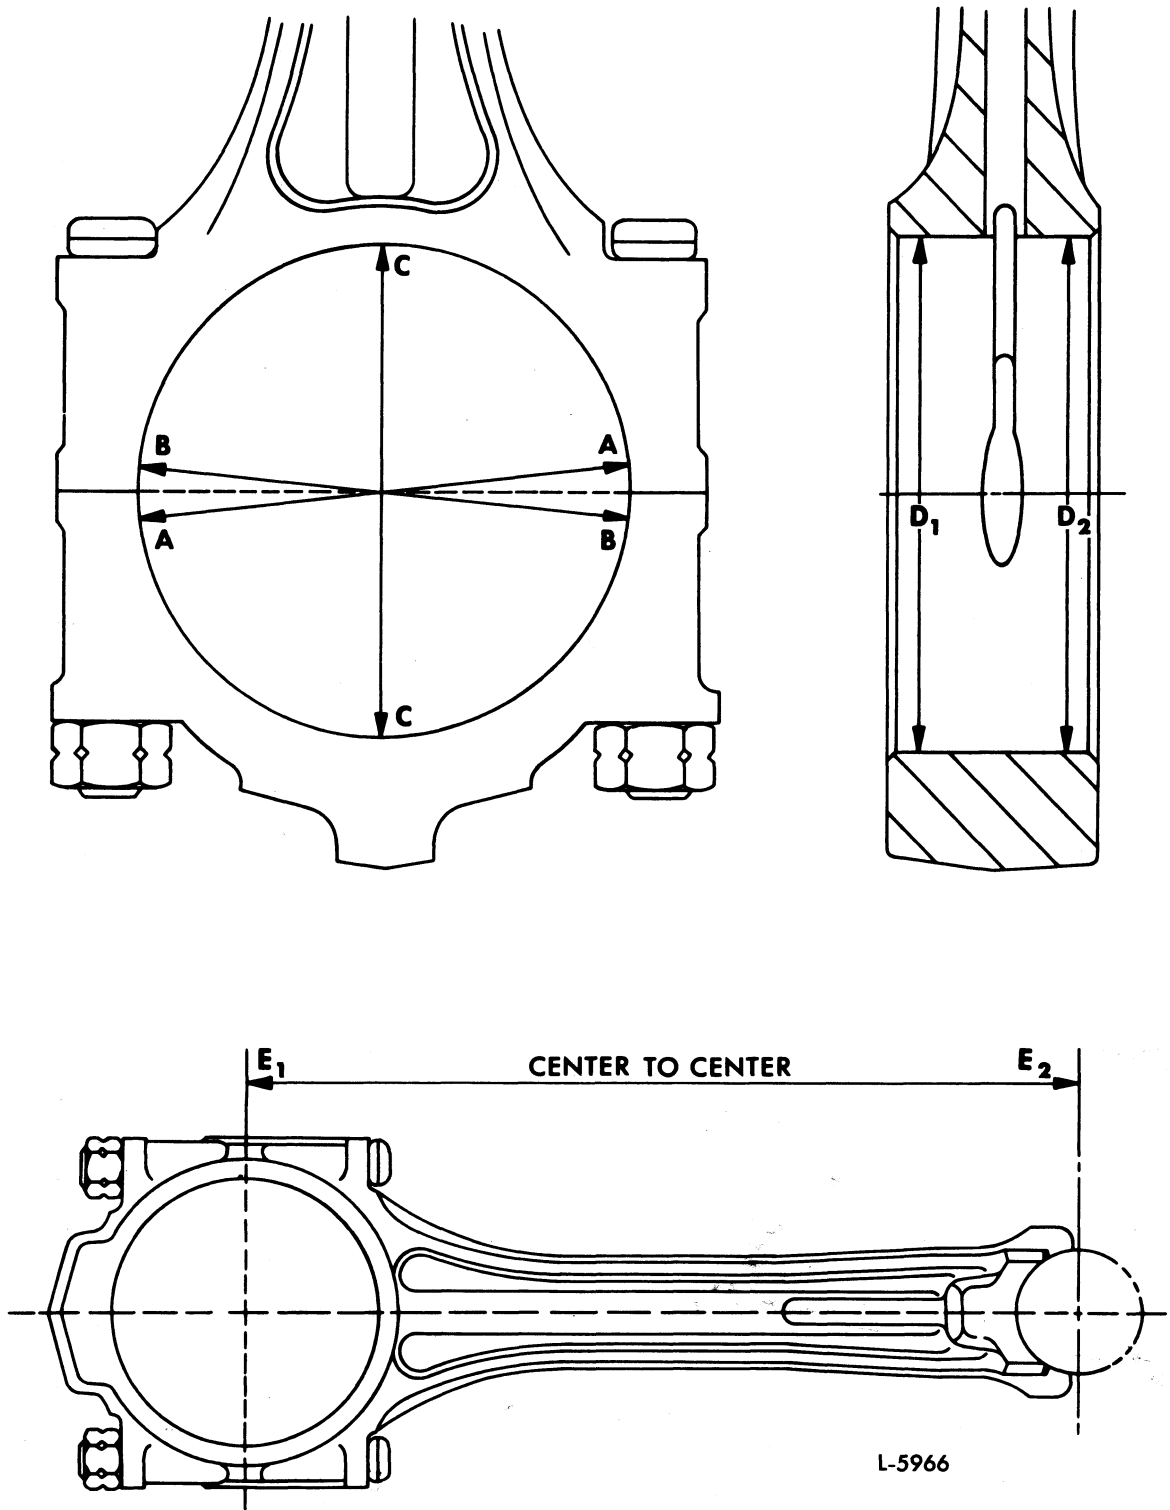

Fig. 5 - Dimensional Inspection of Cross-Head Piston Connecting Rods
2. Determine average bore diameter of the rod, using a dial bore gage and master ring as follows (Fig. 5).
- b. Measure diameter A and B (Fig. 5).
3. Determine taper as follows (Fig. 5):
- 4. Determine length by finding the distance between E1 and E2 (Fig. 5). The length of the rod can be measured on connecting rod measurement fixtures marketed by: Sergeant Industries, 6300 Stapleton South Drive, Denver, CO 80216.